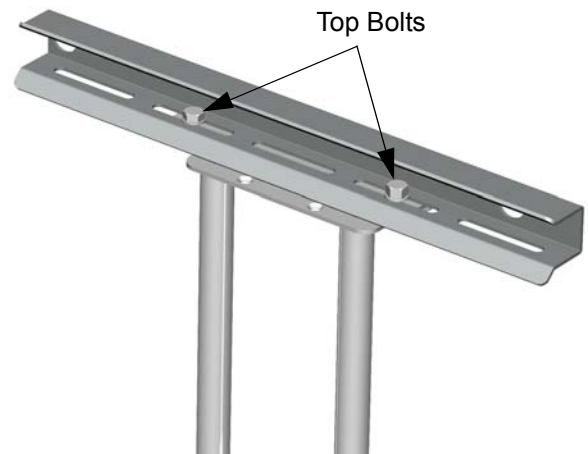

Figure 12. Swing Arm Adjustment – Slightly Off Center
2. Loosen four bolts (two on the top and two on the bottom) securing the swing arm assembly to the top and bottom mounting brackets (see Figure 12).